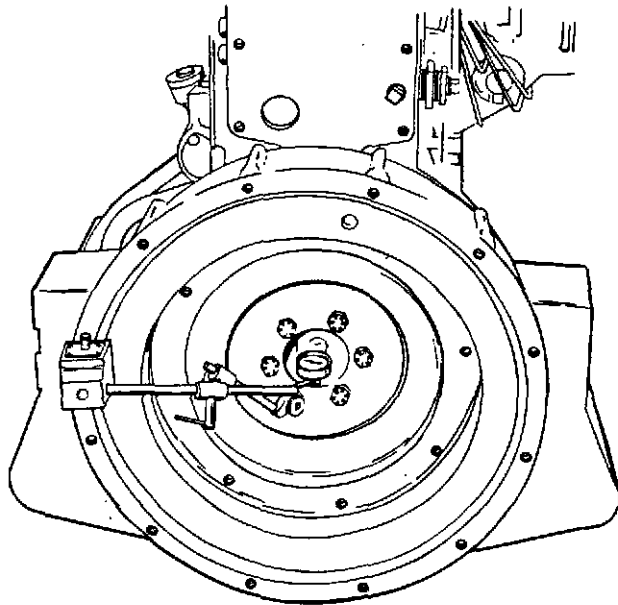

Figure 5-24. Indicating Flywheel Pilot Bore
3. Attach the indicator, as shown in figure 5-24, to check the concentricity of the pilot bore. This should not exceed 0.005 inch total indicator reading.
10. Check concentricity of bellhousing in relation to flywheel (figures 5-24 and 5-25).